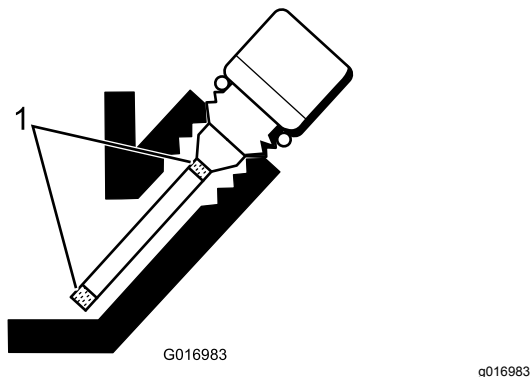

Figure 30
5. If the level is low, add only enough oil to raise the level until it is between the hatch marks on the gauge (Figure 30).